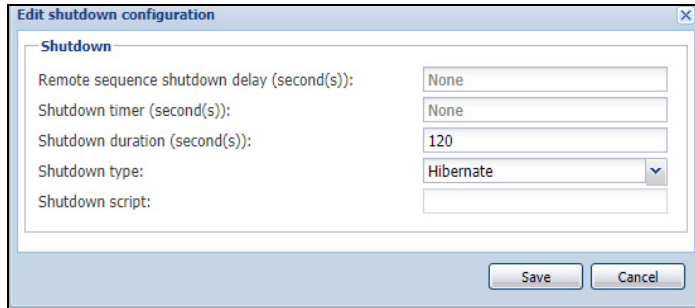

Figure 28. Edit Shutdown Configuration Dialog Box
3. Click **Edit shutdown configuration**. The Edit Shutdown Configuration dialog box displays (see Figure 28).